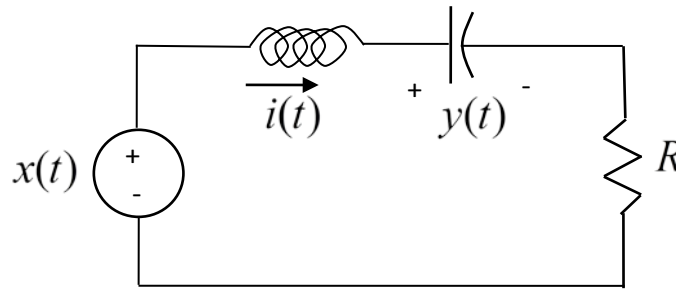

Figure 6. Second order circuit for PART 3
- 1) Construct the second order circuit shown in Figure 6. For this circuit, use your variable resistor for R, use a $0.01 \mu\text{f}$ capacitor, and a 33 mH inductor.